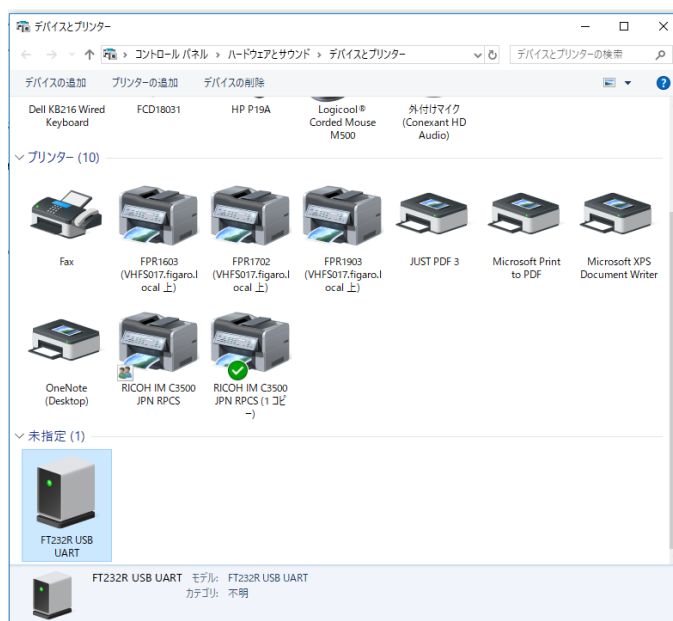

Figure 5 - USB Driver Icon on the "View devices and printers" screen
(2) When the license agreement is displayed, check the terms and conditions, select [I agree], and click the [Next] button. Installation will commence.
(3) When installation of the USB driver is completed, click the [Finish] button to close the installation screen.
(4) Connect the USB terminal on the communication board to the USB port on the computer using a mini B-USB cable included in the package.
(5) Turn on the power switch SW1 of EM7000 and confirm on the computer screen that the USB driver is recognized.
(6) Select "Start Menu", then select "Control Panel", and select "View devices and printers."
(7) Right-click the USB driver icon "FT232R USB UART" and select "Properties" (Figure 5).